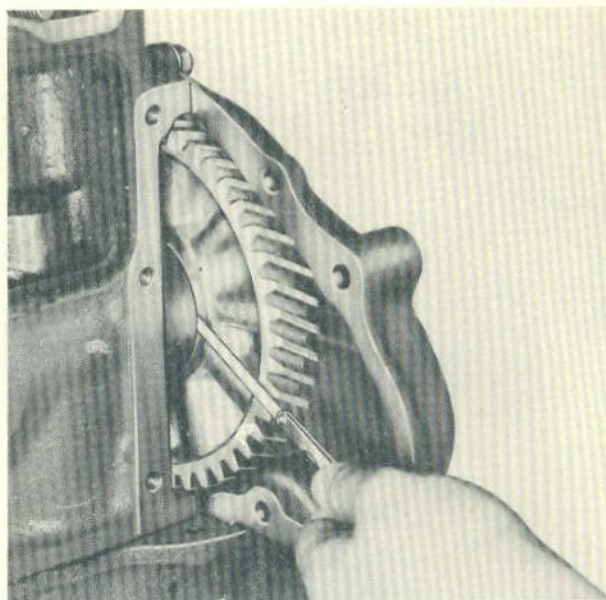

Fig. 6
c. Measure the camshaft end play as shown in Figure 6. If more than .005" end play exists, shims should be installed. A standard type thrust washer may be used to eliminate end play. This thrust washer is installed between the timing gear and the timing gear cover.